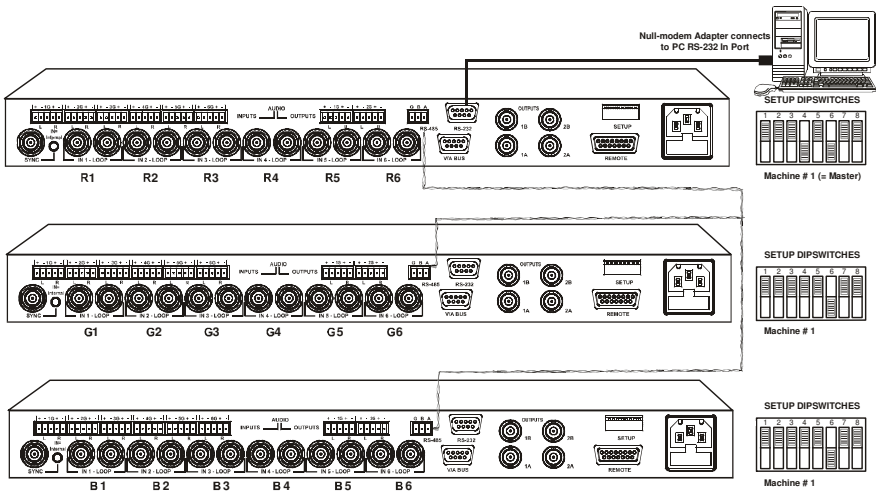

Figure 12: Cascading a set of three Units in a (RGB) Parallel Configuration
1. Connect the video sources and acceptors, as well as the appropriate audio sources and acceptors, by reassigning the composite video inputs, 1 to 6, as Figure 12 illustrates, as follows: